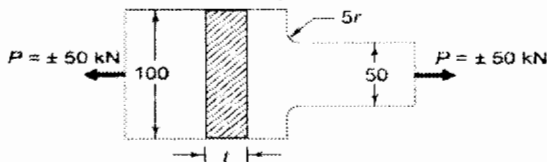

Figure 2
- b. A component machined from a plate made of steel 45C8 ($S_{ut} = 630$ MPa) is shown in figure 2. It's subjected to a completely reversed axial loading of 50 kN. The expected reliability is 90% and the factor of safety is 2. The size factor is 0.85. Determine the plate thickness t for infinite life, if the notch sensitivity factor is 0.8.